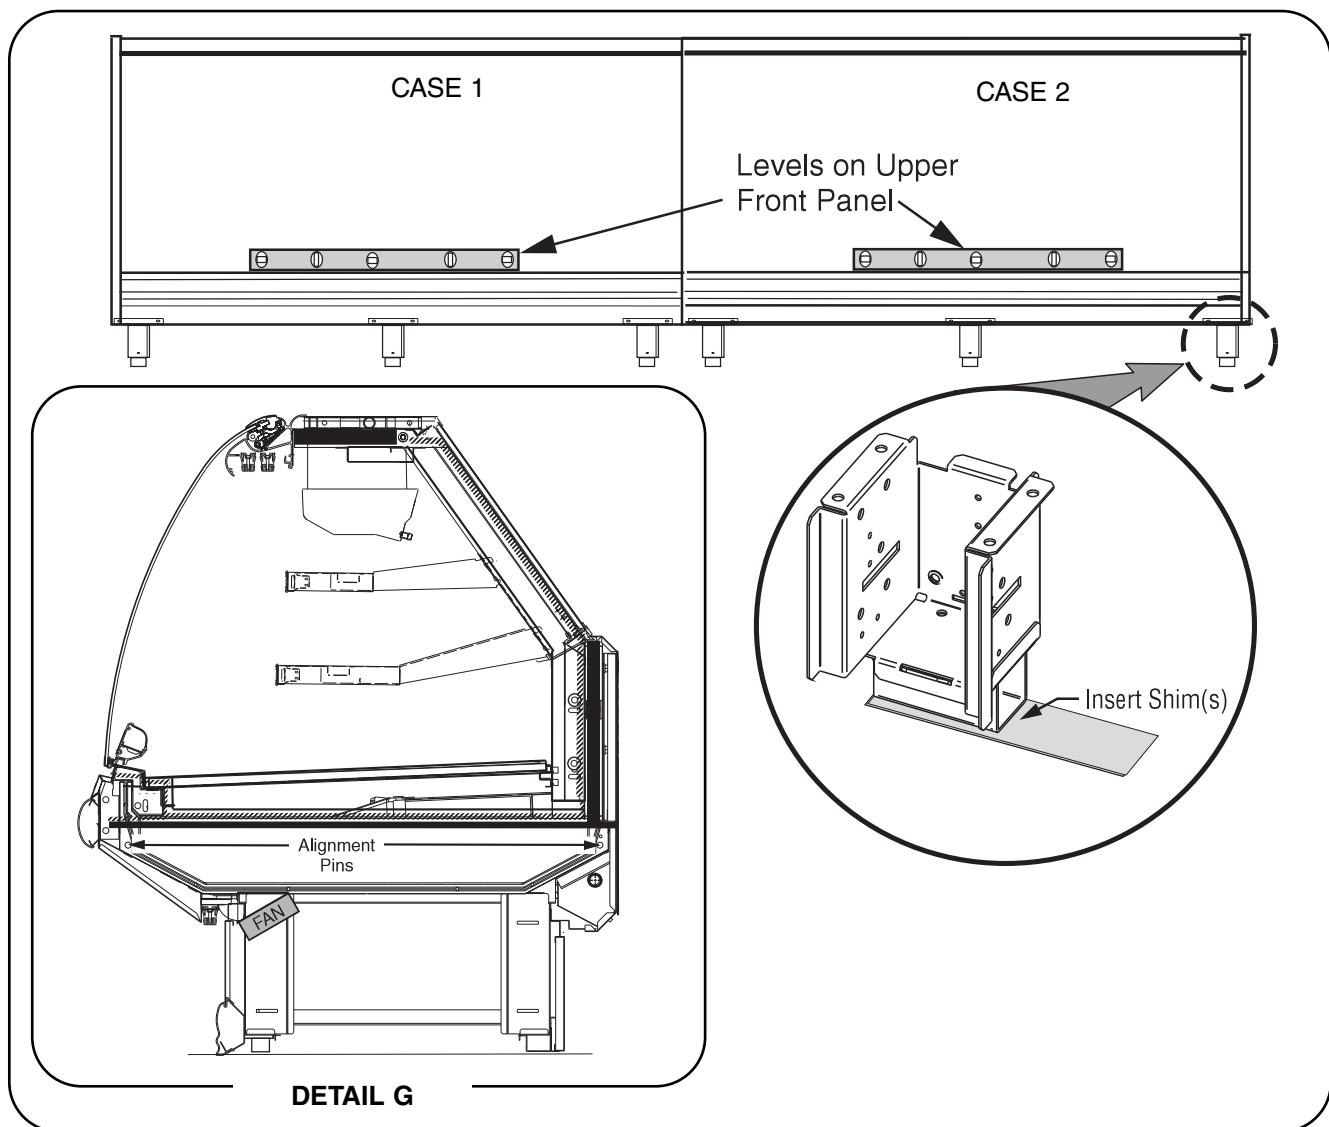

Figure 6. Leveling Merchandisers
7 Apply Silicone along perimeter of merchandiser as shown in Figure 6. Be sure to apply silicone to the **Top Gasket Pad** (Item – 3). See Detail F.
8 Move the second merchandiser into position against the first. Match the alignment pins with the corresponding holes. See **Figure 6, Detail G**.
A. Set a long level (4 foot or more) on the upper front panel of the merchandisers. Adjust case height by inserting shims until the merchandisers are flush and level. See **Figure 6**.